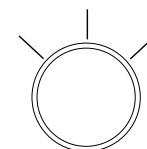

Figure 6. Cycle Status LED (OFF)
6. The **GREEN** "Cycle" status LED (Figure 6) should be **OFF** until the transfer of fluid is required.